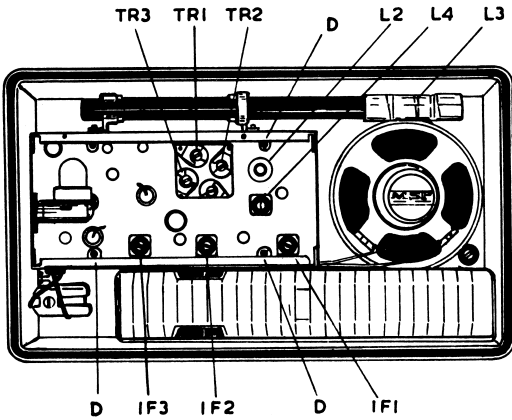

FIG. 2
4. Remove 3 screws marked "D" in FIG. 2.